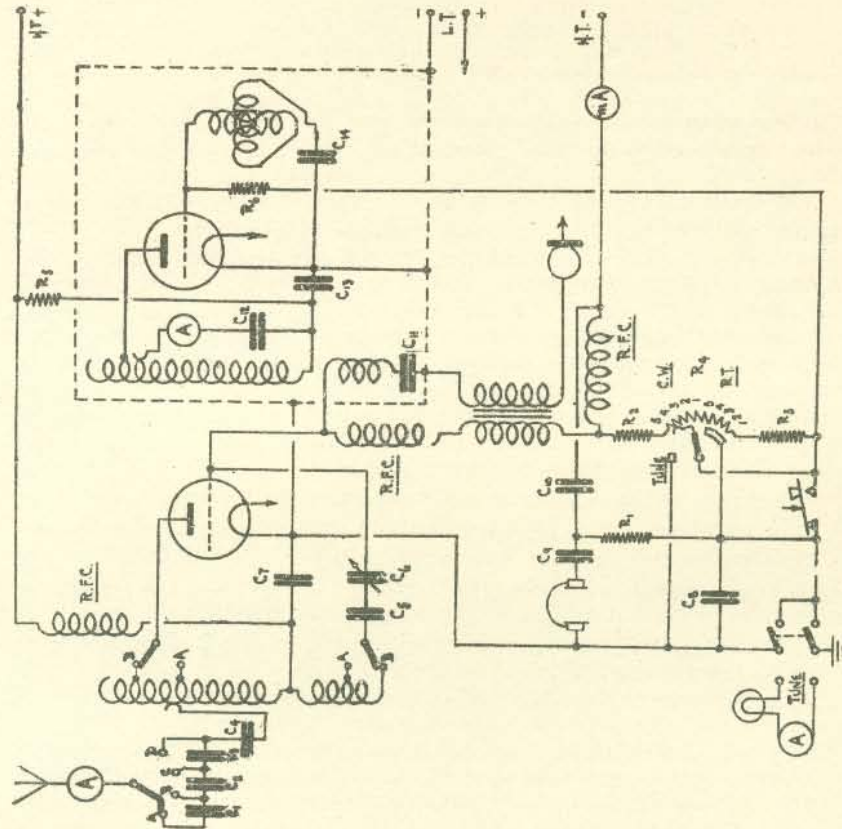

Fig. 70.—Transmitter T.1083.
6. **Circuit.**—(i) *Ranges "B" and "C"*.—The circuit is as shown in fig. 70, a T.A.–T.G. master oscillator being used. M.O. and P.A. are tuned by variable inductances, the M.O. grid being tuned by a variometer. Coupling between M.O. and P.A. is variably inductive; to suit the frequency in use, a two position switch (marked A and B) on the coupling coil alters the turns in the circuit (use A for higher frequencies of the range), and the P.A. coil can be plugged in to one of two alternative positions, also marked A and B. This permits adjustment of neutralising and anode taps.